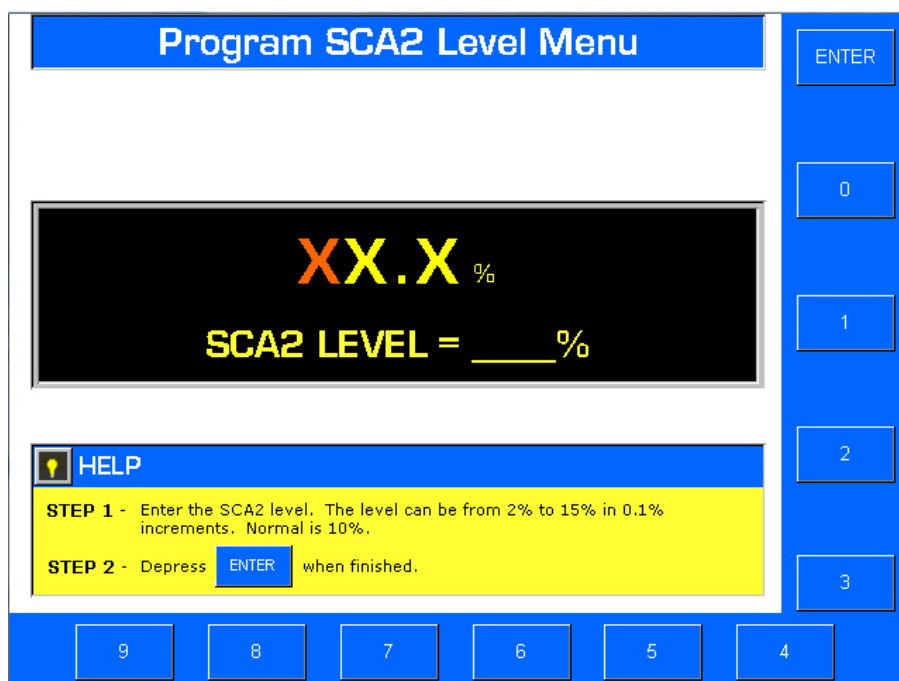

Figure 3-28. INTERNAL PROGRAM SCA2 LEVEL MENU
- A. From SCA2 menu depress SCA2 LEVEL. The Internal Program SCA2 Level Menu will appear (refer to Figure 3-28).